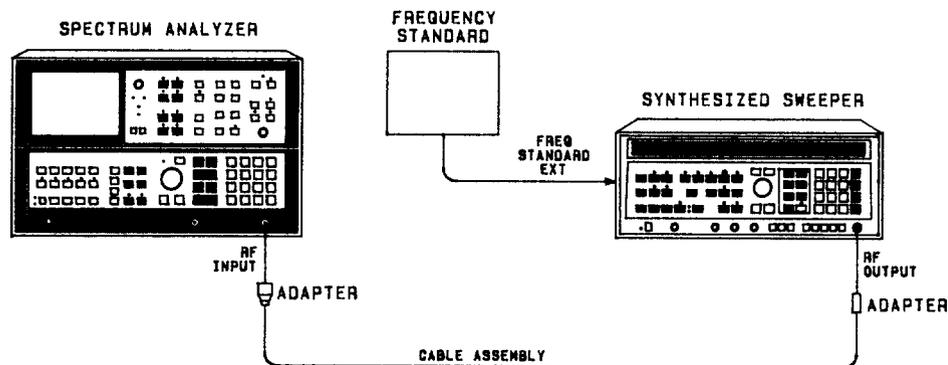

FIGURE 1. CENTER FREQUENCY TEST SETUP
6. Connect equipment as shown in Figure 1.